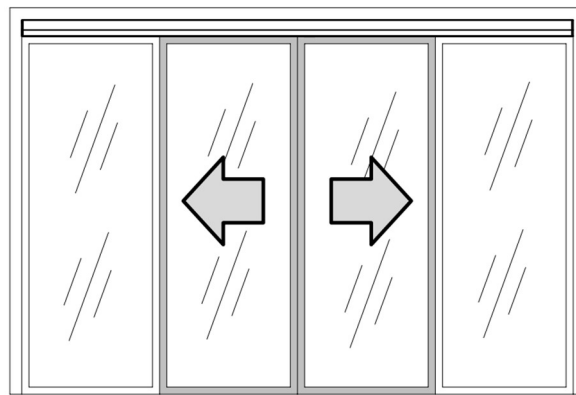

Figure 1: Bi-parting doors with the MultiDrive.
- The MultiDrive can be retro-fitted to any framed sliding door, including bi-parting doors (Figure 1) and non-bi-parting doors (Figure 2).